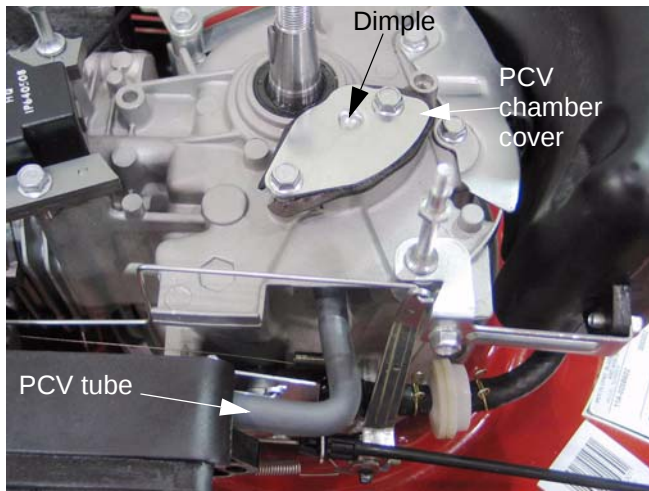

Figure 11.6
- 11.6. The PCV chamber is accessible by removing the flywheel, as described in steps 7.2 through 7.6 of the IGNITION SYSTEM section of this manual. See Figure 11.6.